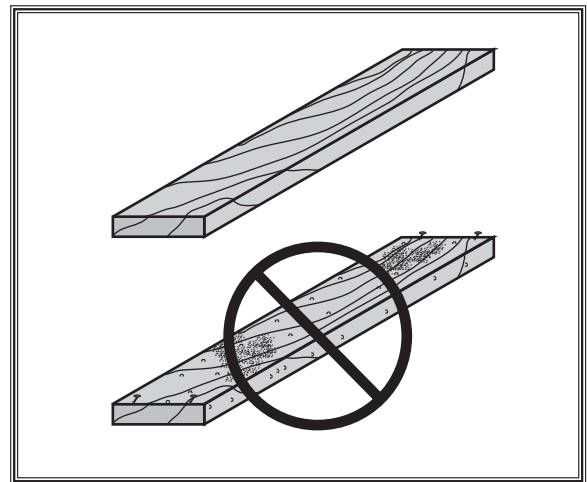

Figure 10. Good and poor lumber.
- Only use clean stock (see **Figure 10**). Scrape off all glue from joined boards before sanding. Remove all dirt, nails, staples, imbedded gravel, etc. from any lumber you plan on using. A hidden nail in a workpiece will instantly tear the sandpaper and the hook and loop drum cover.